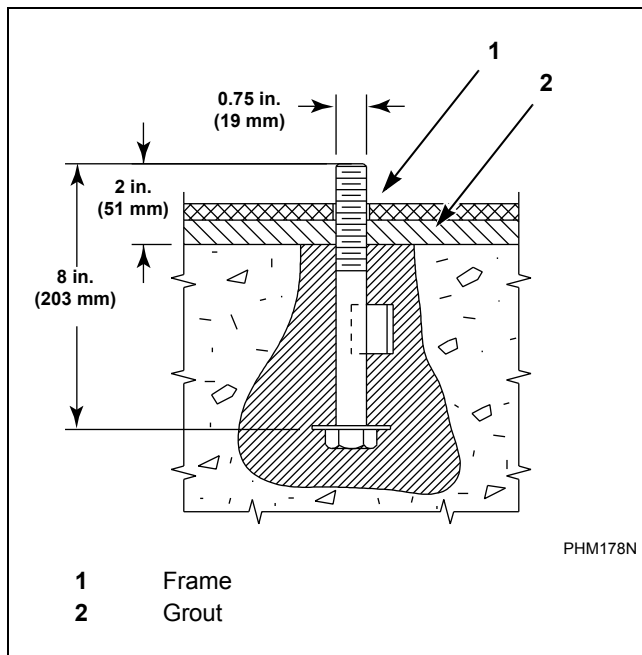

Figure 10
2. Drill holes for anchor bolts. Refer to *Figure 10*.